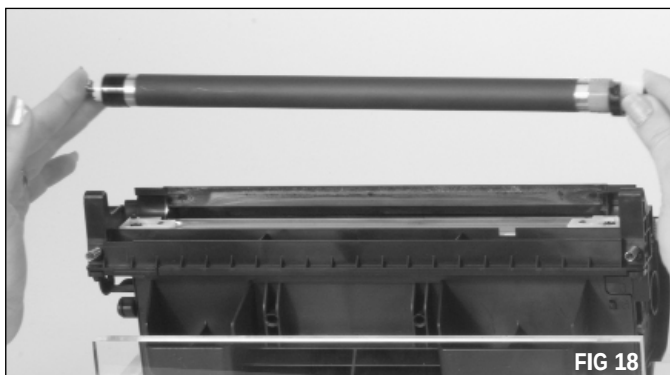

FIG 18
8. Remove the mag roller. Grasp each end of the mag roller as shown in FIG 18 and lift it from the hopper. If you plan to reuse the mag roller, store it on a soft non-abrasive surface. Be careful not to lose bushings, bearing, and stabilizer.